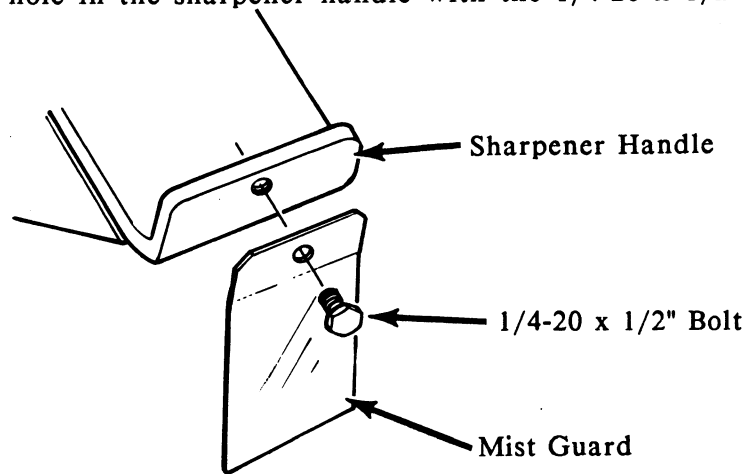

FIGURE 3
1. With the LTADS Sharpener and wet-grind catch tray already mounted, assemble the mist guard to the tapped hole in the sharpener handle with the 1/4-20 x 1/2" bolt as shown in Figure 3.